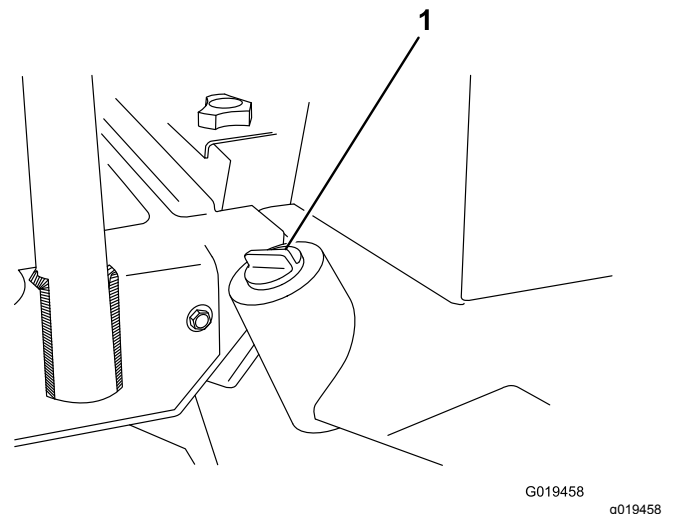

Figure 72
2. Clean the area around the filler neck and cap of the hydraulic tank (Figure 72). Remove the cap from the filler neck.